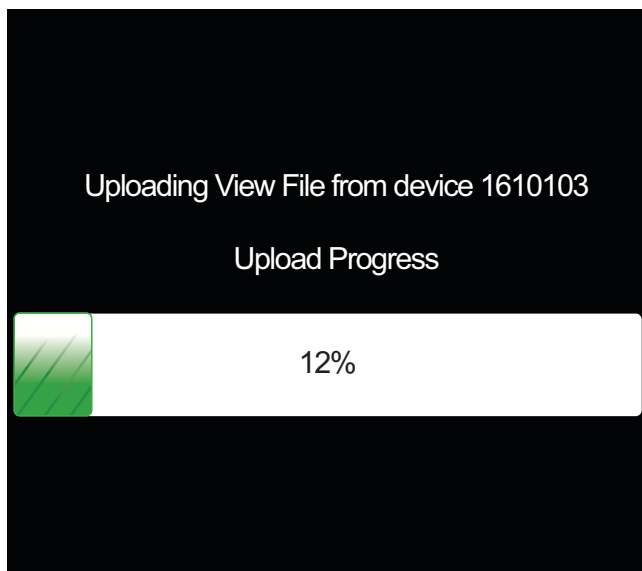

Fig. 12 — Firmware Uploading
4. Once connection is established, Equipment Touch will start uploading touch file from the SystemVu device, as shown in Fig. 12.